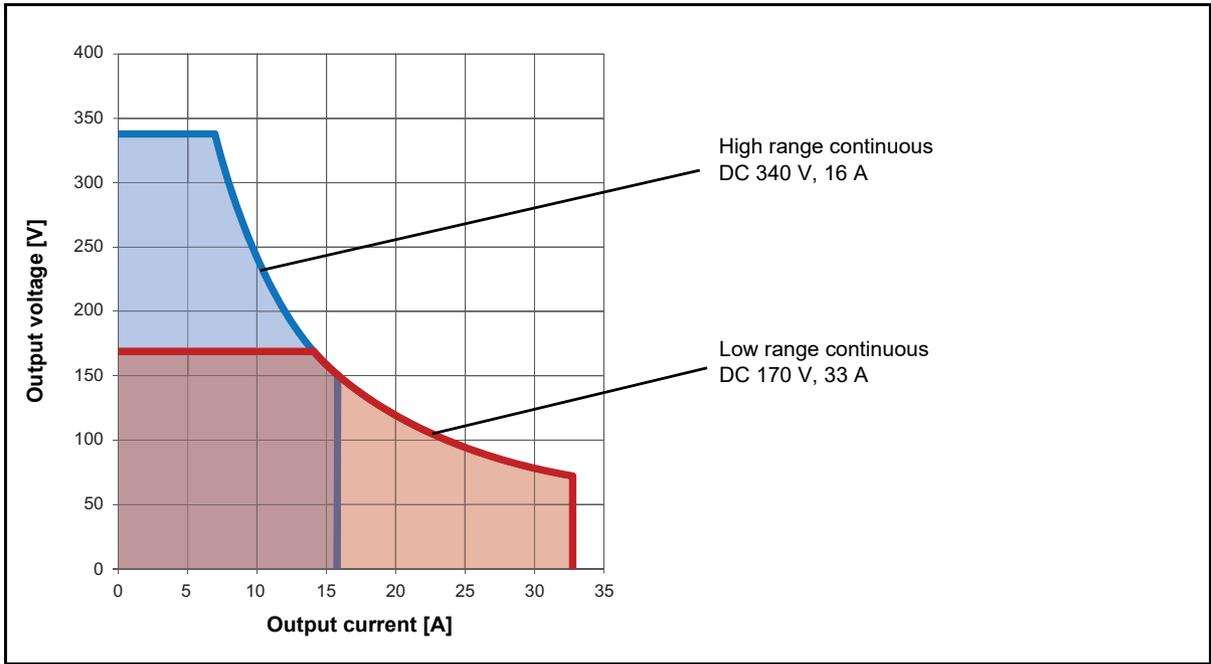

Figure 15-1: Permitted operating range 1 x DC 340 V 16 A
2. See Figure 15-1: "Permitted operating range 1 x DC 340 V 16 A" on page 260